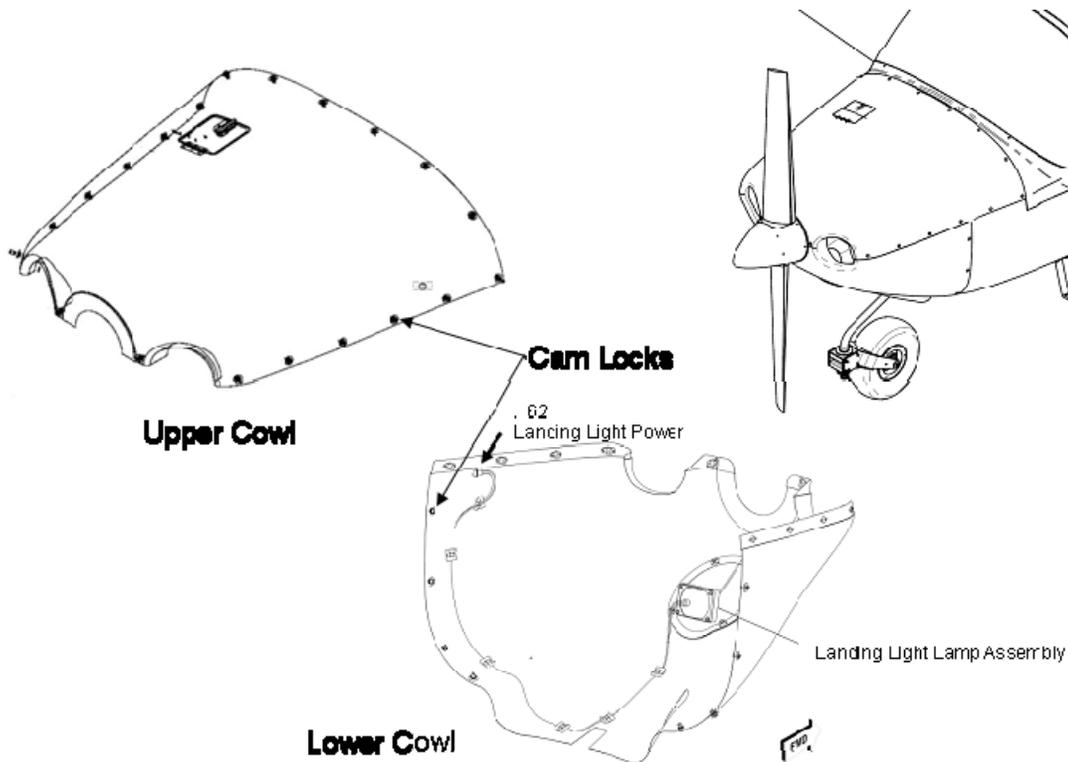

Figure 71-23 Guidance for Re-attaching Cowling
4. Disconnect landing light connector P62 located near L/H engine baffle as shown in Figure 71-23.
3. Reconnect landing light connector P62 as shown in Figure 71-23.